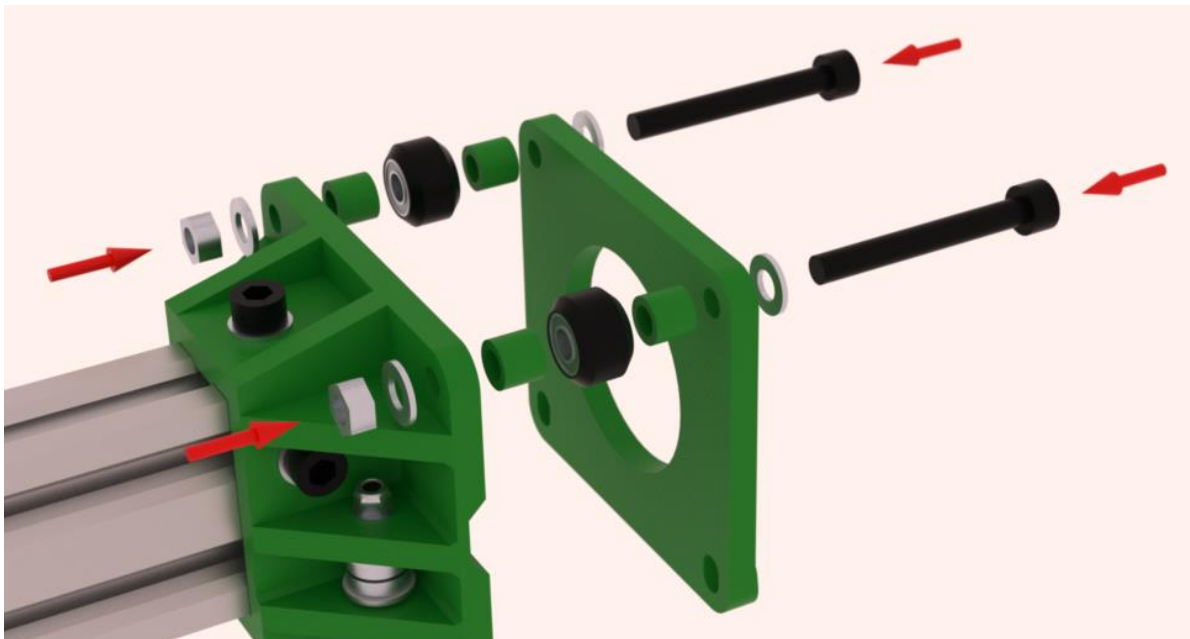

Figure 47: Right side H-bar endplate installation
- Attach an H-bar end plate and wheels to the right H-bar end as shown in Figure 47.